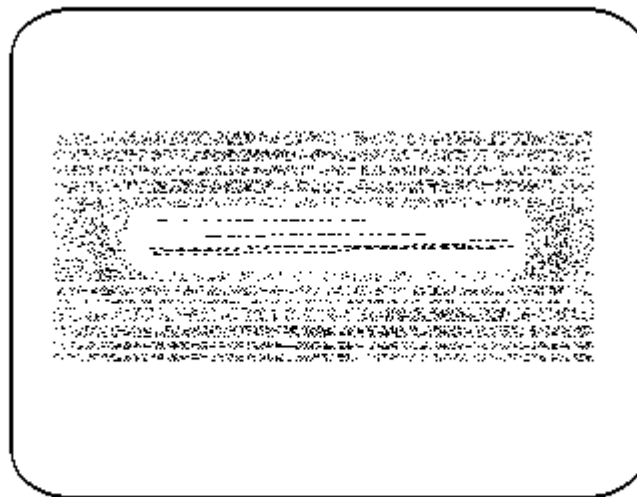

Figure 8-24. Character Height Adjustment
11. If the characters on your display appear too short or too tall, adjust the character height. Using the VDU adjustment DIAGNOSTIC program, fill the screen with capital Es (Figure 8-24). See Chapter 4 in this guide for more information on the VDU adjustment program.
15. If characters near the top of the display appear taller or shorter than those near the bottom of the display, a linearity adjustment is necessary. Using the VDU adjustment DIAGNOSTIC program, fill the screen with capital Es (Figure 8-24 above). See Chapter 4 in this guide for more information on the VDU adjustment program.